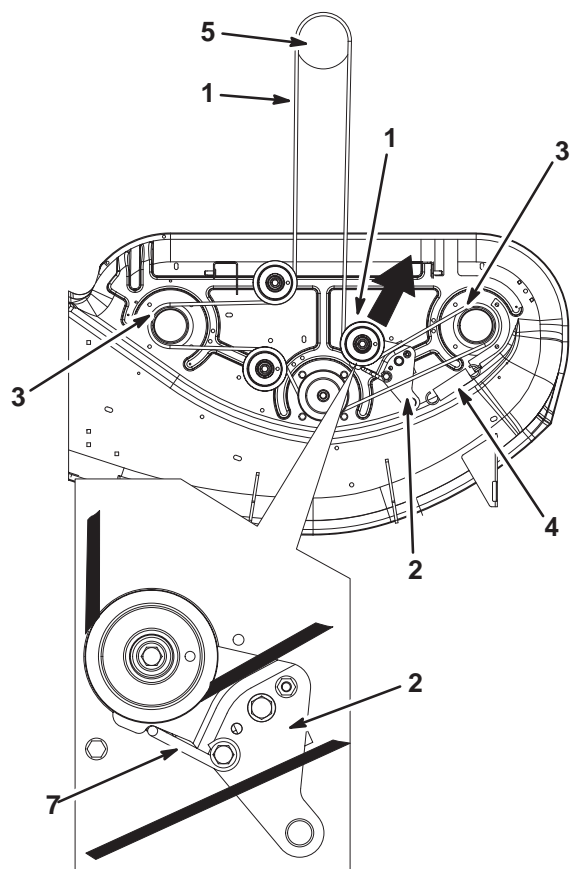

Figure 43
5. Pull the idler pulley in the direction shown in Figure 43 and roll the belt off of the pulleys.
6. Route the new belt around the engine pulley and mower pulleys (Fig. 43).
7. Pull the idler pulley in the direction shown in Figure 43 and route the belt onto the idler pulley (Fig. 43).
8. Rotate the belt guide toward the pulley until it stops on the idler arm (Fig. 43).